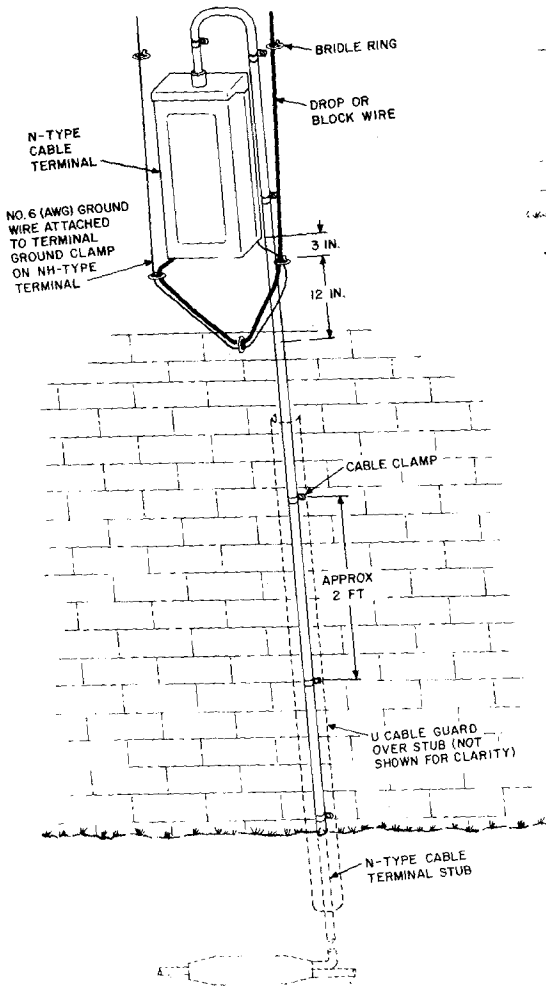

Fig. 21—N-Type Cable Terminal—Building Mounted
5.01 Typical installations of buried cable block service are illustrated in Fig. 21, 22, and 23.